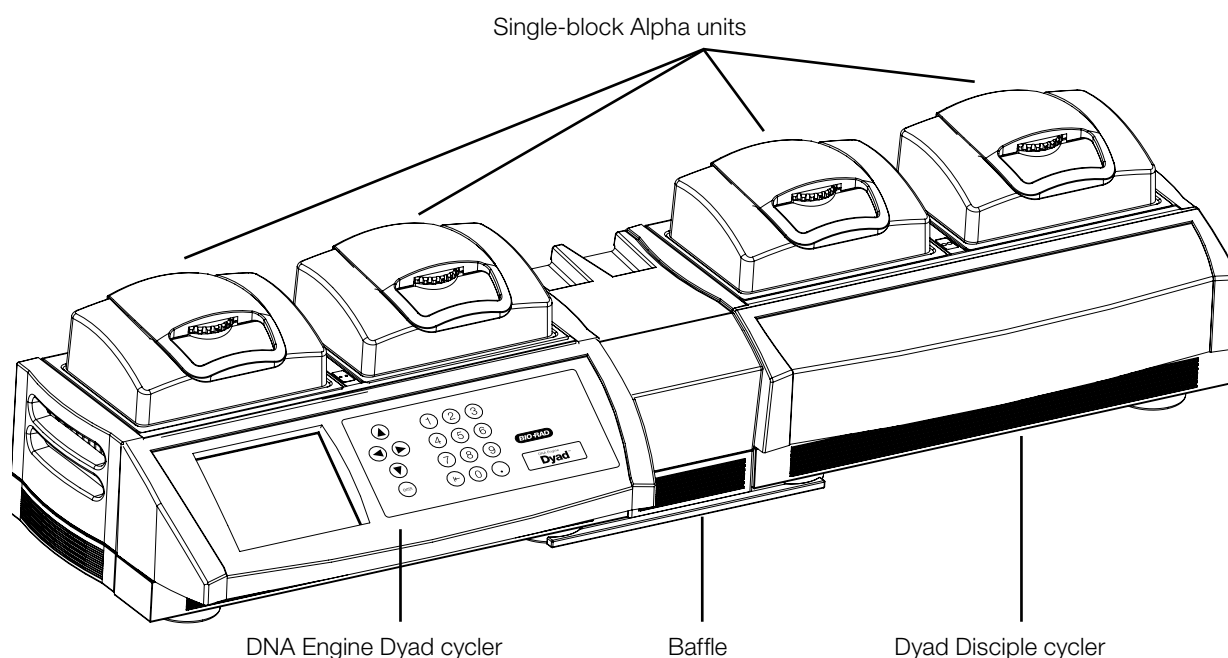

Figure 3A. Front view of the linear configuration.
1. Unpack the baffle system and identify the base plate and the baffle (see Figure 3A).